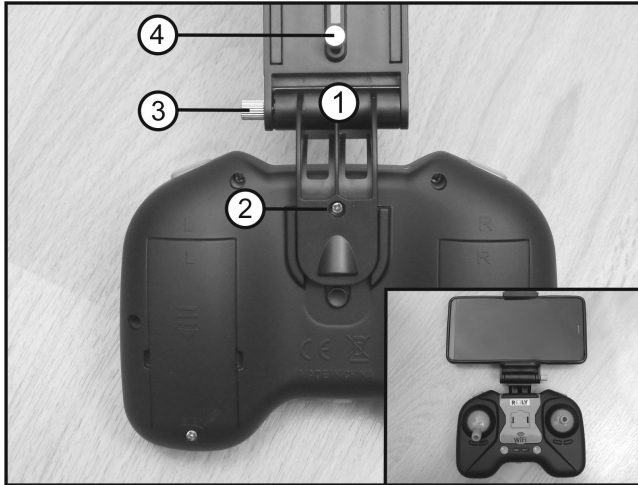

Figure 10
Insert your Smartphone into the holder as shown in figure 10. The holder is suitable for Smartphones with a width of max. 90 mm. When installing your Smartphone, ensure that you neither damage the housing nor push/damage any buttons. Observe a tight fit of the Smartphone during transport or operation of the transmitter. You can use the knurled screw (3) to adjust or fasten the inclination of the holder and the knurled screw (4) to adjust and fasten the height of the holder. The upper counter-bearing of the holder is also height-adjustable.